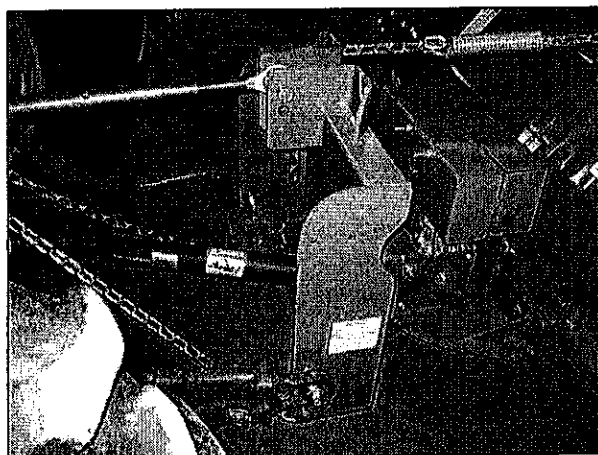

Figure 9
14. Install the PTO driveline to the lower gearbox shaft and the tractor PTO stub shaft. (Figure 9).